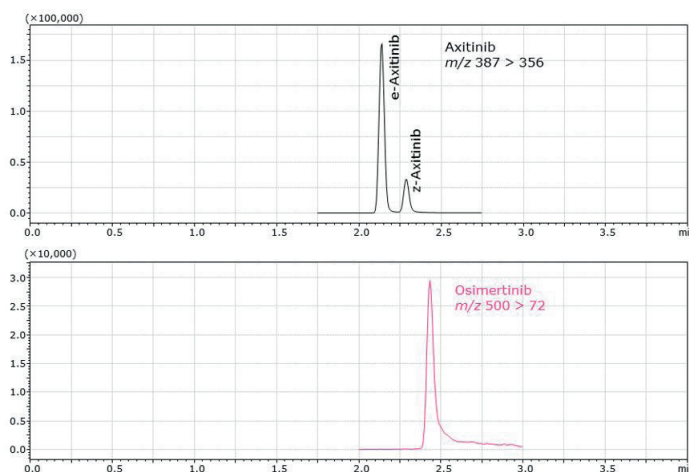
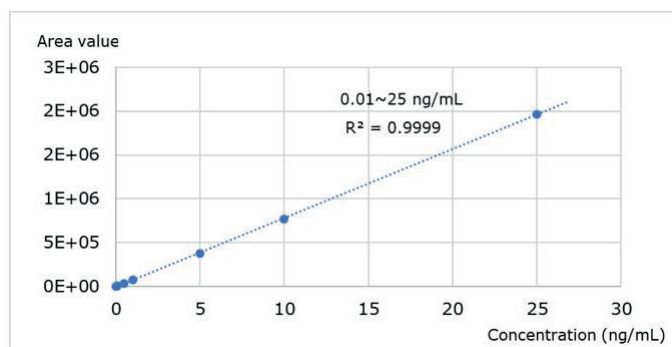

Figure 2. SRM chromatograms of Axitinib (top) and Osimertinib (IS) (bottom).
Figure 3. Standard curve for Axitinib.
SRM (Selected Reaction Monitoring) chromatograms of Axitinib and Osimertinib (IS) are shown in Figure 2. Under the LC conditions used in this application note, two peaks were detected in the Axitinib chromatogram. This was attributed to the separation of the isomers. In this study, we determined the peak area value for the peak at elution time of 2.14 minutes and used this to create the calibration curve\*. The calibration curve generated is shown in Figure 3.